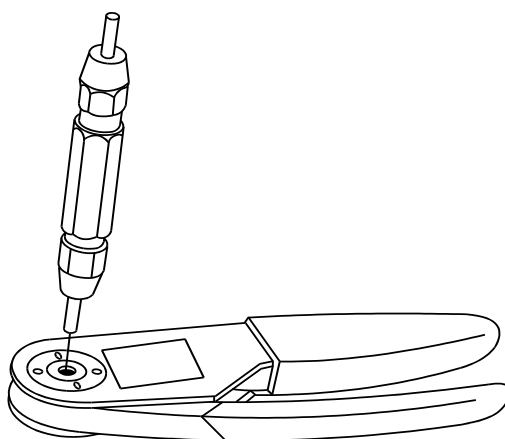

Figure 10-17 Testing the Crimp Tool
- c. Axially align the 'Go' end of the gauge (Green) with the indenter opening, as depicted in Figure 10-17.